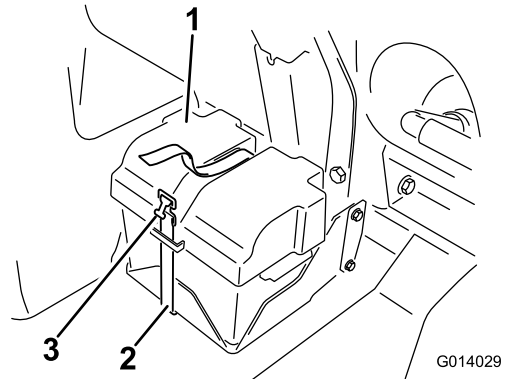

Figure 95
2. Remove the battery cover and disconnect the negative (black) ground cable from the battery post (Figure 95).
4. Install the battery cover and secure it with the strap that you removed previously (Figure 95).